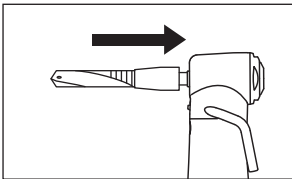

Fig. 3
- 3) Push bur/drill inward to click then it locks. (Fig. 3)